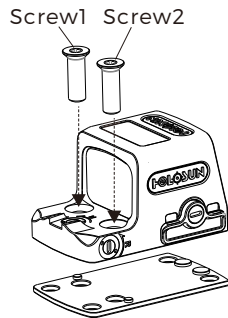

Fig 7-2
2. EPS Carry: To use the included RMSC adapter plate, first place the adapter plate onto the slide in the proper orientation, then attach the sight to the adapter plate/slide using the provided screws to pass through the holes of the sight and adapter plate. (See Fig 7-2)